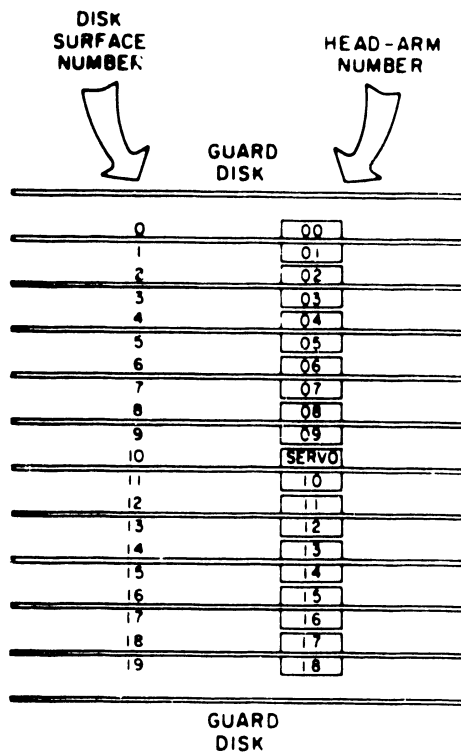

FIGURE 4-27 HEAD LOCATION
- m. Command a direct seek to track 1440 (320).
7. Press the START switch to stop the drive motor and unload the heads. If head 16, 17, or 18 (Figure 4-27) requires adjustment, move the preamp housing. To move the preamp housing:
11. Select the read/write head to be aligned (refer to Figure 4-27).